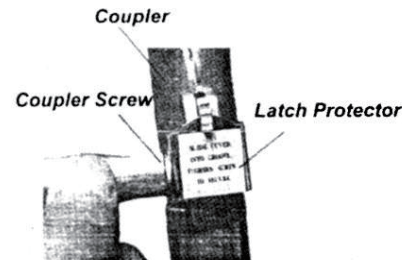

Figure 2
4. When the two tube halves are locked together, slide the latch protector into groove of latch, then tighten the coupler screw. See Figure 2.